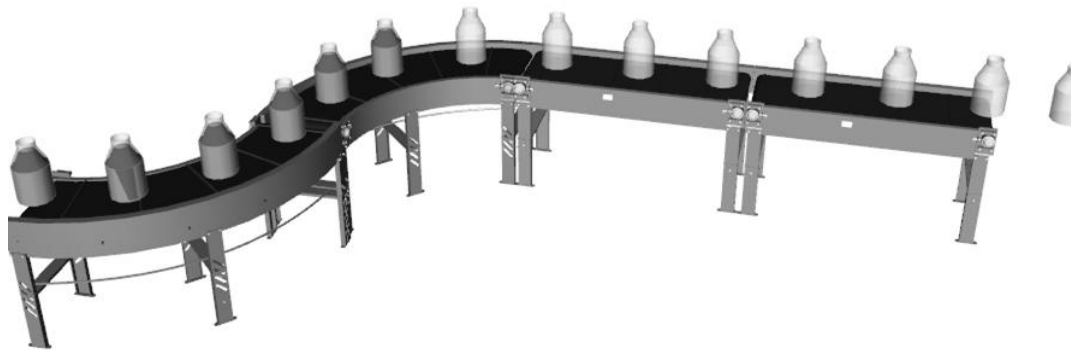

**Figure L6.9 - Conveyor with Bottles**
6. Drag the “Full Bottle” out from the GENESIS64TrainingSymbols and stack it on top of the conveyor. Again, duplicate this bottle so that it looks like Figure L6.9.